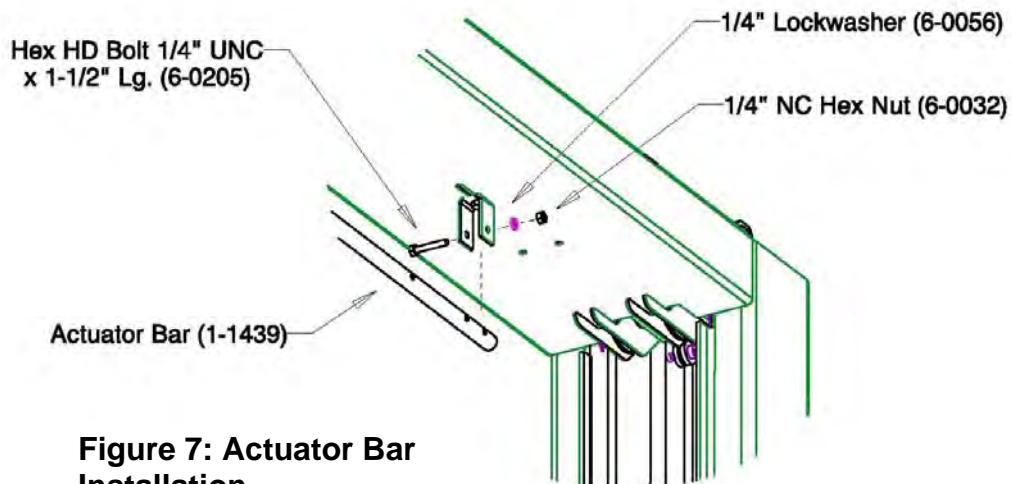

Figure 7: Actuator Bar Installation
2. Attach the Actuator Bar to the Actuator Mounting Bracket using one (1) 1/4" NC x 1 1/2" lg. hex head bolt, one (1) 1/4" lockwasher, and one (1) 1/4" NC hex nut. Orient the Actuator Bar so that the last hole (out of the set of 3) is used when mounting. (**Figure 7**)